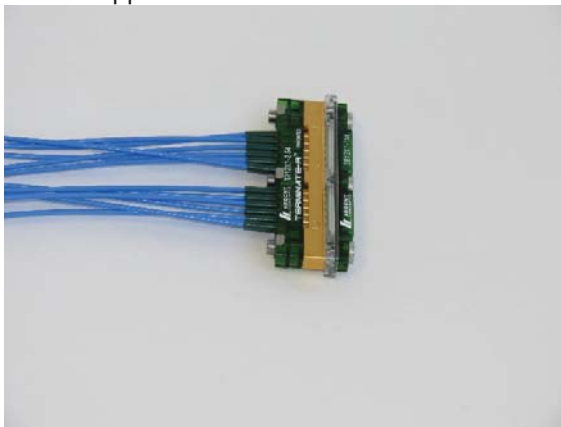

Figure 1: TR Assembly
- Carefully remove the shipping cover and Stiffener Block from the TR Assembly by loosening the M2 Captive Screws at the top of the Strain Relief Block until they are easy to slide out of the stiffener and PCB (See Figures 1 and 2).